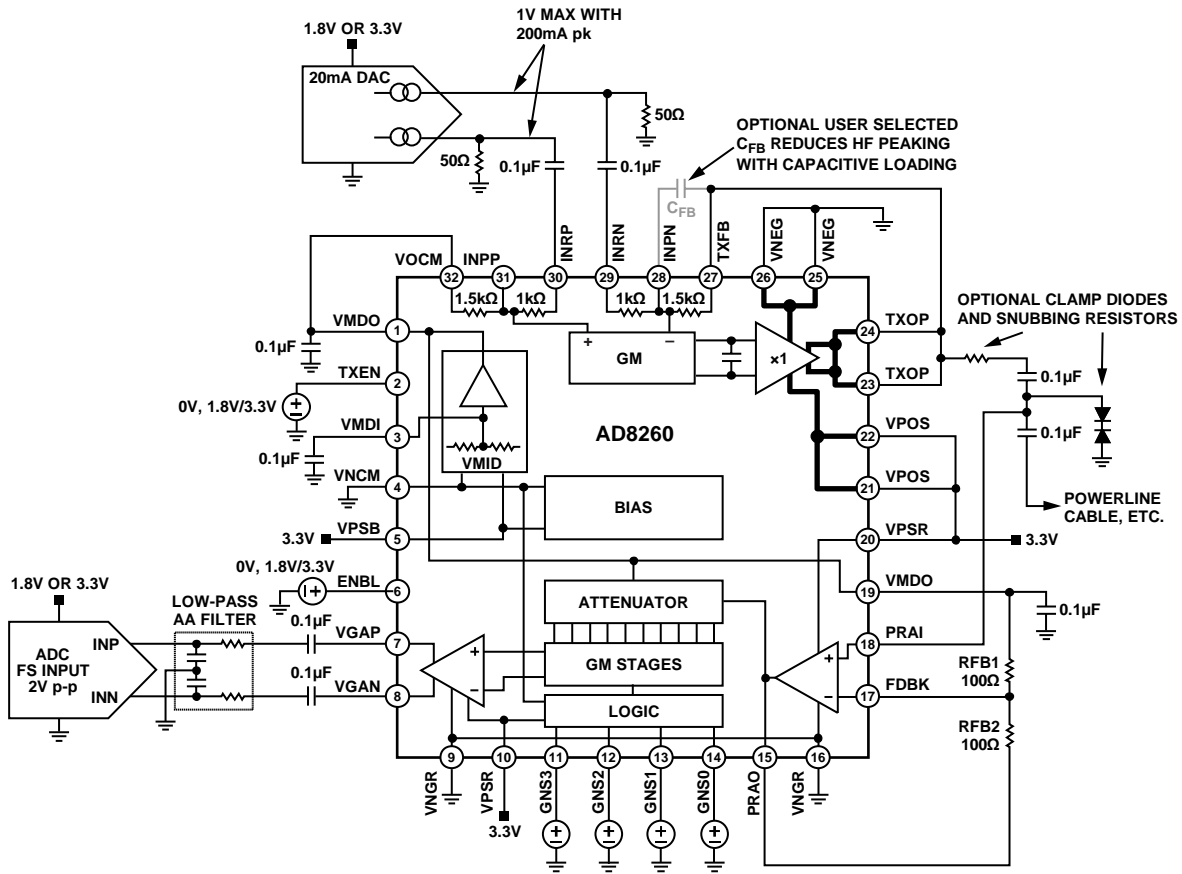

Figure 64. Block Diagram and Basic Application Connections
The AD8260 is a self-contained transceiver intended for analog communications using a power line as the media. Operating on supplies as low as 3.3 V, it includes a high current driver usable as a transmitter and a low noise digitally programmable variable gain amplifier (DGA), usable as a receiver (see Figure 64). An uncommitted current-feedback high frequency op amp acts as a preamplifier and interface to the DGA and is user configured for gains greater than 6 dB. Combined, the VGA and preamplifier are usable at high signal levels from dc to 100 MHz, with a small-signal -3 dB bandwidth of 230 MHz. To implement a high current-output VGA, the VGA output can be connected to the driver-amplifier differential input.
4-bit parallel interface. Figure 64 shows the circuit block diagram and basic application connections, and illustrates the envisioned external DAC, ADC, and power-line bus interface connections. The diagram shows the connections for single 3.3 V supply operation; if a dual supply is available, the VMID generator can be shut down and Pin VMDI, Pin VMDO, and Pin VOVM need to be grounded. Note that Pin VNOCM functions as the negative supply for the bias and VMID cells, plus the logic interfaces, and should always be tied to ground.
For optimal dynamic range, it is important that the inputs and outputs to both the driver amplifier and the preamplifier and the DGA output amplifier be ac-coupled in a single-supply application. In Figure 64, the DAC and ADC are presumed to operate on a 1.8 V or 3.3 V supply with a corresponding limited output and input swing. The DAC outputs are currents that point down and generate a voltage in the $50\ \Omega$ resistors that are connected to ground. The maximum voltage with a peak DAC output current of 15 mA is 0.75 V; if a DAC with a 20 mA peak current is used, then the maximum voltage is 1 V per side for a differential input signal of 2 V p-p.
The high current driver amplifier can deliver very large output currents suitable for driving complex impedances, such as a power line, a 50 Ω line, or a coaxial cable. The input of the amplifier is fully differential and intended to be driven by a differential current-output DAC, as shown in Figure 64. The differential input signal is amplified by 1.5× and produces a 2.25 V p-p single-ended output signal from a 1.5 V p-p input signal. A DAC with 15 mA maximum output current into a 50 Ω load provides 1.5 V p-p of input voltage and results in 2.25 V p-p at the output. A DAC whose output is 20 mA produces an output swing of 3 V p-p (neglecting a small gain error when driving the parallel combination of the 50 Ω load-resistor and the internal 1 kΩ gain resistor of the AD8260).
During receive, when the high current driver-amplifier is disabled, its gain setting resistors provide a signal path from input to output. To prevent inadvertent DAC signals from being transmitted while receiving via the preamplifier and DGA, the DAC in Figure 64 must have no output signal.
The VMID buffer is a dc bias source that generates the voltage on Pin 1 and Pin 19, VMDO. Node VMDO cannot accommodate large dynamic currents and requires excellent ac decoupling to ground. A high quality 0.1μF capacitor located as close as possible to Pin 1 and Pin 19 (see Figure 64) is normally sufficient to decouple the high values of current from Node VMDO.
Referring to Figure 64, the signal path consists of a 30 dB programmable attenuator followed by a fixed gain amplifier of 18 dB for a total DGA gain range of -12 dB to $+18 \text{ dB}$. With the preamplifier configured for a gain of 6 dB, the composite gain range is -6 dB to $+24 \text{ dB}$ from single-ended preamplifier input to differential DGA output.
- Use the internal VMID buffer as shown in Figure 64.